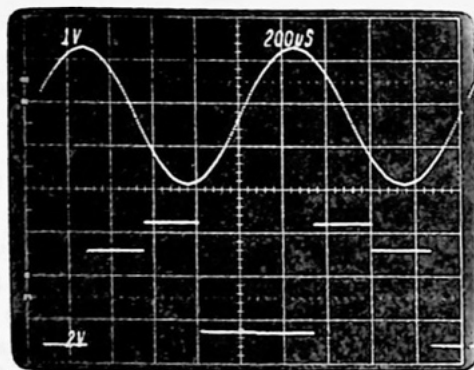

Figure 6-29
Step 16—Increase the frequency of the generator until the echoed sine wave is not reproducible. We have found that the maximum reproducible frequency is around 500 Hz. After this, the echoed sine wave is quite distorted. Our results at 1000 Hz are pictured in Fig. 6-29.